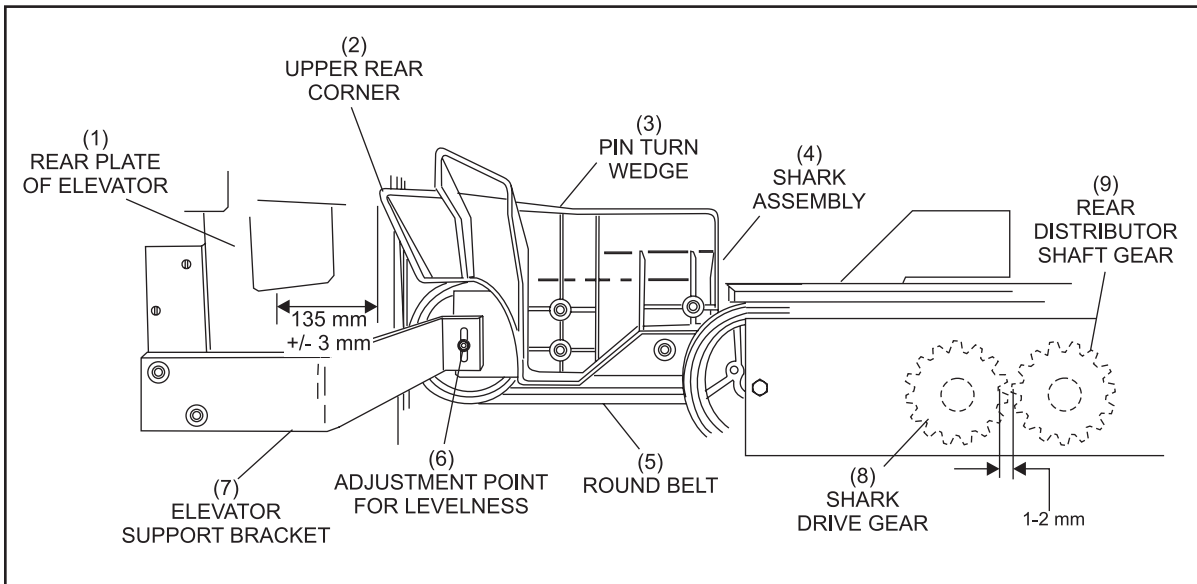
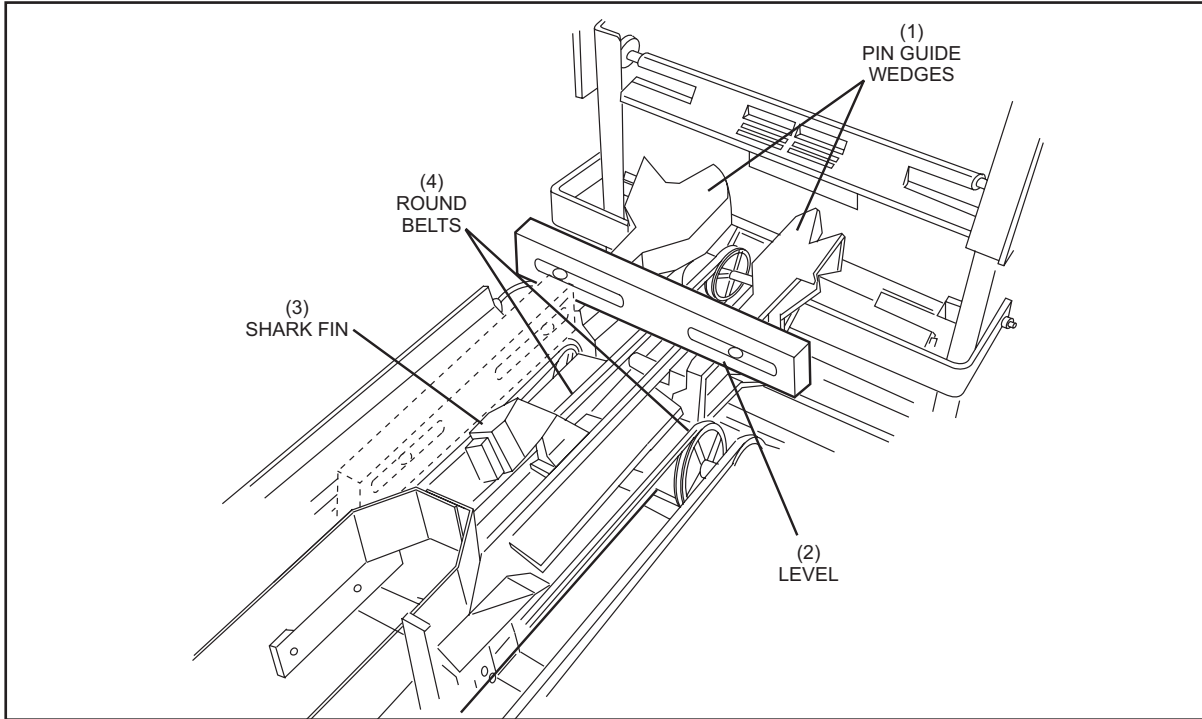
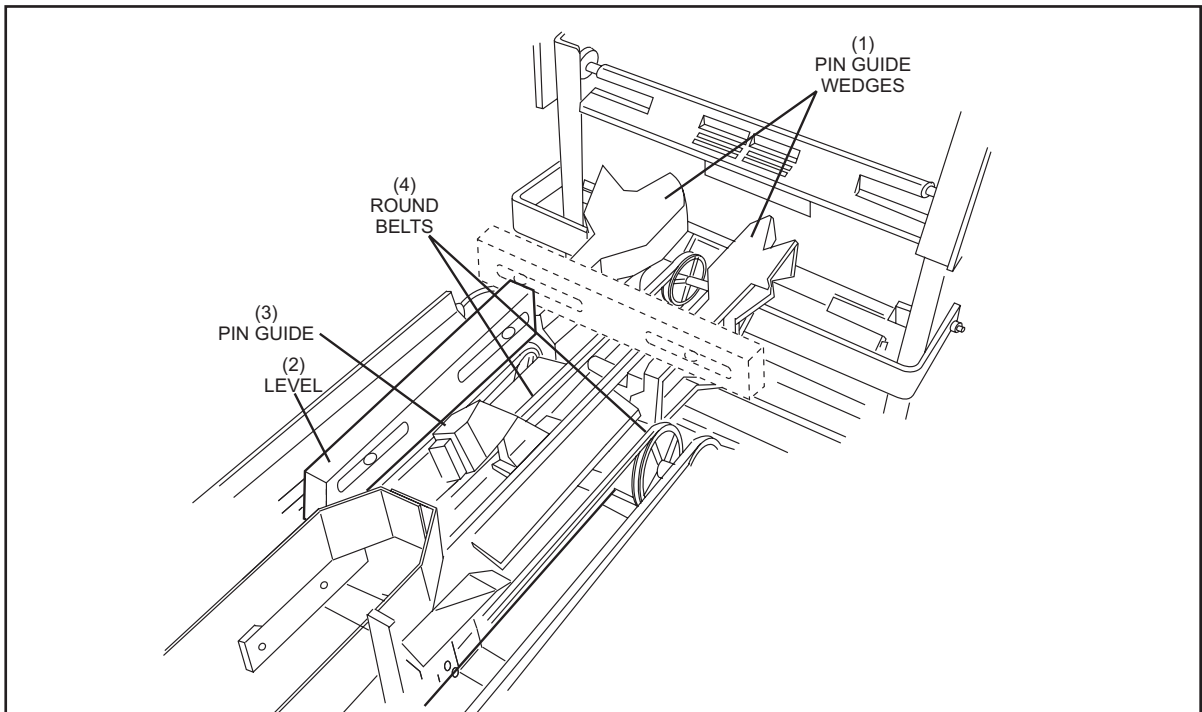

Figure 5-20. Pin Turn Wedge Positioning
Figure 5-21. Shark Switch Leveling Adjustment - Side to Side
Figure 5-22. Shark Switch Leveling Adjustment - Front to Back
The upper rear corner of each pin turn wedge must be 135 mm + 3 mm from the rear plate of the elevator and there must be approximately 1-2 mm tooth gap at the gears between the shark assembly and the distributor. To verify proper tooth gap, check for 1-2 mm of movement by manually moving the belt forward and backward. Refer to *Figure 5-20*. This will allow for the proper placement of the pins into the shark assembly.
1. Loosen the pin turn wedge mounting hardware and position the wedge to 135 mm. Retighten the hardware. Refer to *Figure 5-20*.
2. Adjust the shark assembly so that the pin turn wedges are level side to side and up slightly from back to front. (Approximately 2 degrees or 1/2 bubble on the level). Refer to *Figure 5-21* and *Figure 5-22* to properly position the level and *Figure 5-20* for the adjustment location.